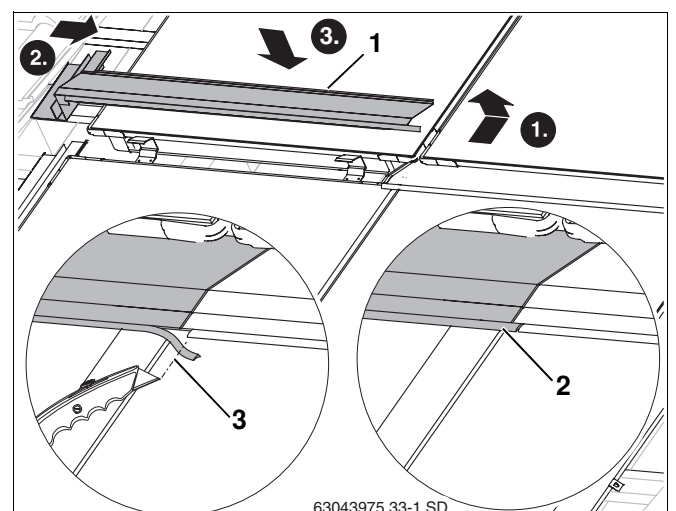

Fig. 52 Laying middle-left facing collector in place
- Insert upward fold on the left-hand facing collector (Fig. 52, **Item 1**) into the recessed channel on the collector frame, just as was done with the right-hand facing collector.
- Shorten the rubber lip (Fig. 52, **Item 3**), so that it touches the rubber lip on the right-hand facing collector.
- Place rubber lip on the left-hand facing collector onto the fold on the right-hand facing collector (Fig. 52, **Item 2**).